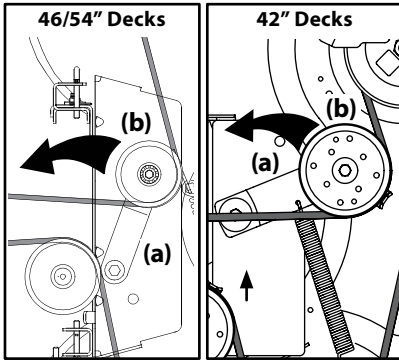
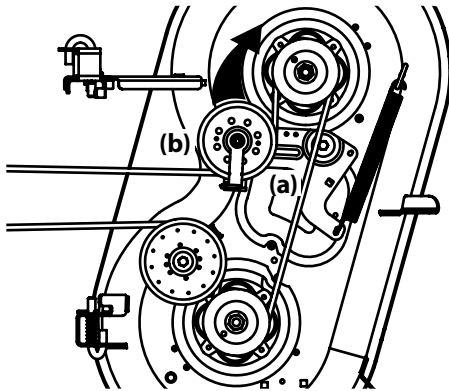

Figure 4-13
Figure 4-14
- b. Working from the middle of the tractor, pivot the idler bracket (a) and movable idler pulley (b) rearward on 42/46/54" decks and forward on 34" decks just far enough to lift the belt up and over the spindle pulley. See Figure 4-13 for 42/46/54" decks and Figure 4-14 for 34" decks.